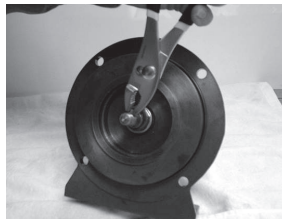

Fig. 3
3. Remove the impeller key using pliers and screwdriver. Fig. 3.